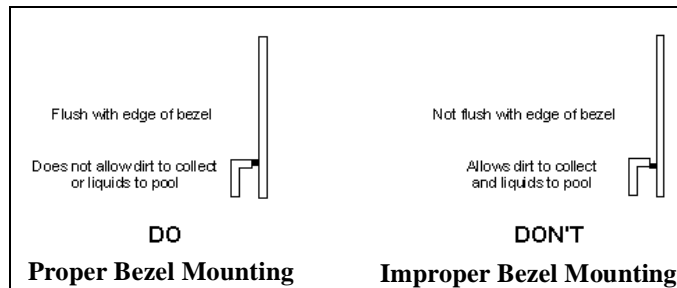

Figure 2.8 Proper and Improper Bezel Mounting
- 2 Adhere the seal to the lip of the bezel. When the bezel is compressed against the touchscreen, the Volara material will act as a seal. Make sure the bezel and sealing tape (Volara) do not touch the reflector strips. See Figure 2.8 on page 31 for proper sealing location.